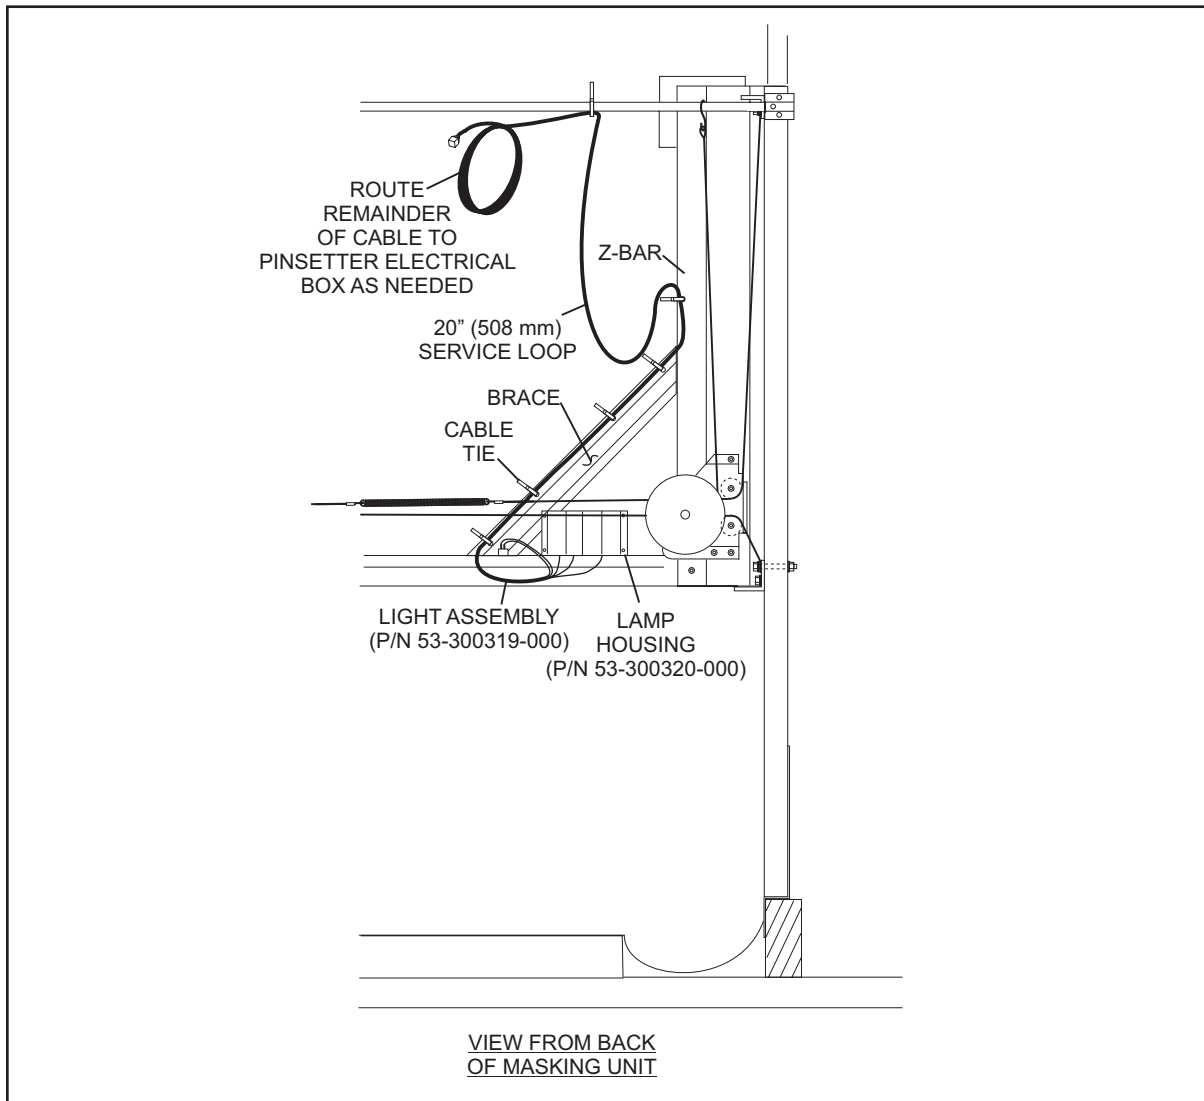

Figure 45
1. Use the four holes in the brace to secure the light cable with cable ties. Refer to *Figure 45*.
3. Secure cable to cross tube with one cable tie, making sure to leave a 20" (508 mm) service loop. Refer to *Figure 45*.